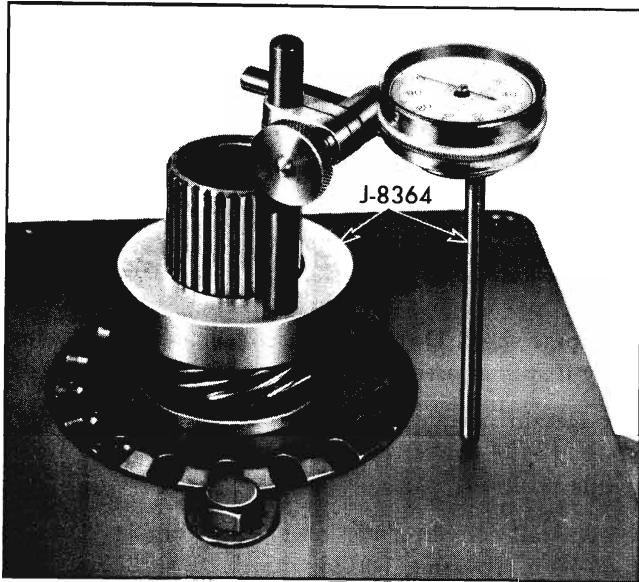

Fig. 7A-73 Measuring for Shim Determination
b. Without gasket, place support on rear pump cavity surface of transmission case with transmission on front end as illustrated (Fig. 7A-72) so that dial indicator tip rests on planet carrier hub. Adjust indicator on J-8364 as required to permit maximum indicator travel and set indicator dial to zero.